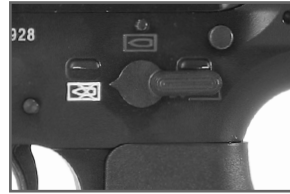

Fig. 14: Selector set on “SAFE”
Cock the HK416 by pulling the charging handle to the rear (Fig. 12) and at the same time, pushing down and engaging the bolt catch (Fig. 13). Push the charging handle into its forward locked position. Place the selector lever with the point towards the "Safe Position" white box with the bullet enclosed (see Fig. 14, pg. 16, these are called Pictogram markings).
“SAFE POSITION”  – Place the selector lever with the point facing towards the closed white box containing a bullet symbol with an “X” over it (towards the muzzle) (Fig. 14).
4. Set the selector lever on “SAFE” (Fig. 14).
1. Set the selector lever to “SAFE” (Fig. 14).
Safety check/clearing the HK416 (see Fig. 14, 17-21)